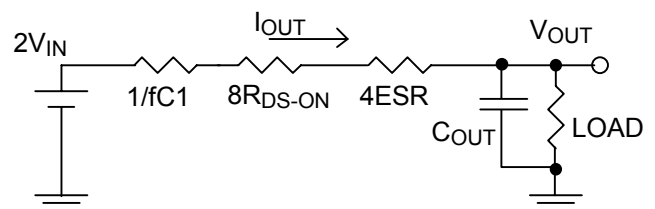

Fig. 22 The equivalent circuit of charge pump
According the equation (16), when the duty cycle is 0.5, the equivalent circuit of charge pump is shown in Fig. 22. The term $8R_{DS-ON}$ is the total effect of switching resistance, $1/fC_1$ is the effect of flying capacitor and $4ESR$ is its equivalent resistance.
From the equivalent circuit shown in Fig. 22, it is seen that the terms $1/fC_1$, $4ESR$ and $8R_{DS-ON}$ should be as small as possible to get large output current. However, for users, since the R_{DS-ON} is fixed and manufactured in IC, what we can do is to lower $1/fC_1$ and ESR. However even the effect of $1/fC_1$ and ESR can be kept as small as possible, the term $8R_{DS-ON}$ still dominates the role that limits the maximum output current.